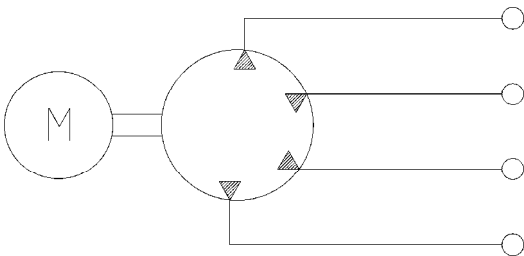

Fig. 33
- For up to 12 lubrication points it is usually best to choose direct feed from pump outlet to lubrication point. Choose lubricator type FLM or FEM of suitable capacity, reservoir size and version depending on number of lubrication points and their grease requirements. See Fig. 33 below.